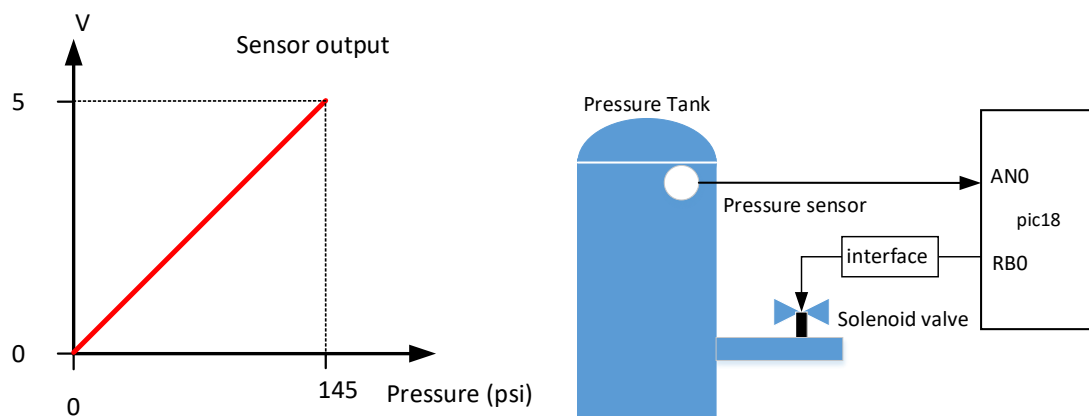

Figure B4a.
- B4.** Block diagram of an industrial pressure tank is shown in Figure B4a. In this system, a pressure sensor shows the inner pressure of the tank. The output of the sensor is analog signal and it is proportional to the pressure as shown in Figure B4a. Pressure tank also contains a relief valve which can be activated to reduce the high pressure accumulating inside the tank if it is at the critical level of 115 psi. Answer the following questions accordingly.
- (e) The pressure sensor in Figure B4a is replaced with a new one and its characteristic is as shown in Figure B4b. What are the potential problems we may face? How can we tackle them? (2 marks)